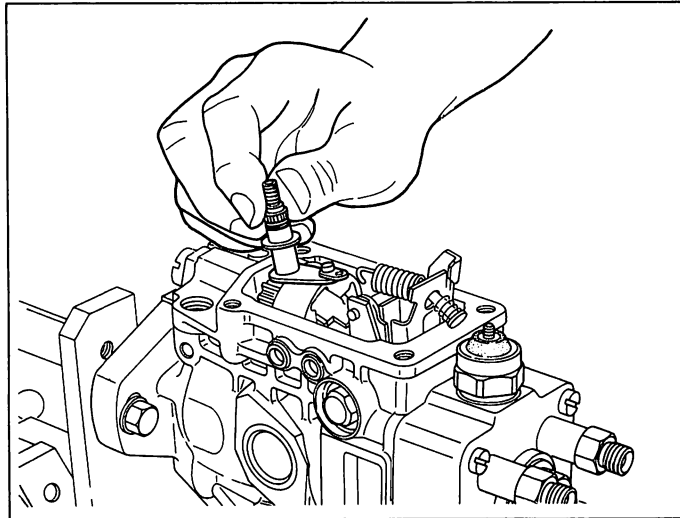

Fig. 95 Governor spring/control shaft reassembly
2. Fit the shim (67/4) and O-ring (67/3) on the control shaft (67/2) and connect the governor spring (122) to the control shaft link. (Fig. 95)